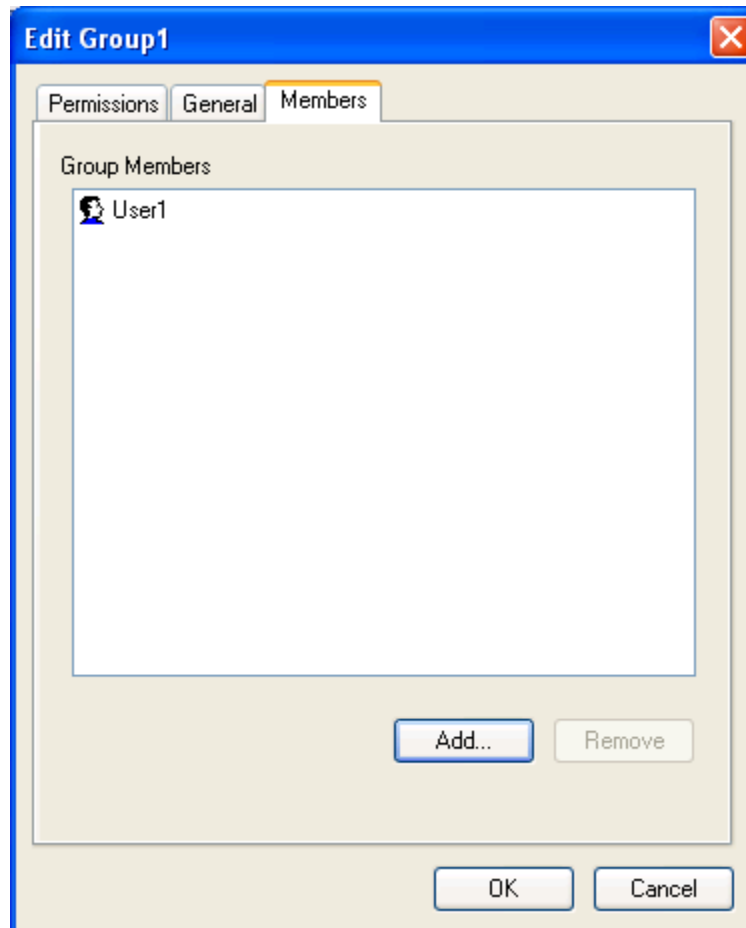

Figure 63 - Edit <Groupname> Window (Members Tab)
On the **Members** tab (Figure 63), the users that are part of the current group are defined. By default, the **Group Members** screen section is empty. In Figure 63, **User1** has been added to **Group1**.
3. Click on the **OK** button. The selected user or users appear in the **Group Members** screen section on the **Members** tab (Figure 63).